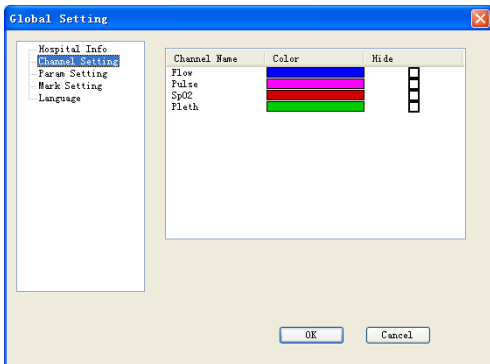

Figure 5-2-2
- 2) Set the waveform color or the waveform state of each lead in “Channel setting” interface, as shown in Figure 5-2-2: